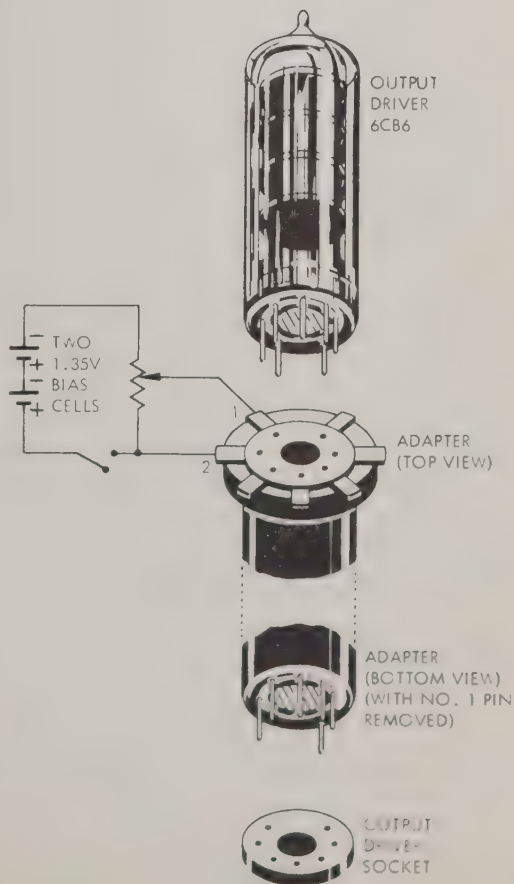

Figure 4-10. Open Loop Servicing
T-7-M, Walsco 1949-07, etc.) by cleanly cutting off Pin 1 of the adapter, assuring total isolation of that pin from connection No. 1 of any socket in which it is used. See Figure 4-10.
b. Assemble and connect to the adapter a network (as shown in Figure 4-10) employing a 1-megohm pot and the same kind of bias cells as are used in the Model 112A (BT301, BT302, and BT303). If desired, extra adjustment may be provided by connecting a small pot in series with the 1-meg unit.